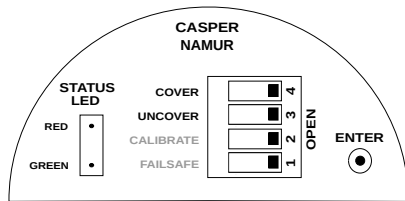

Figure 66: Saving of Low Current Configuration
- Blink the RED LED only once and release the ENTER key as per Figure 66.